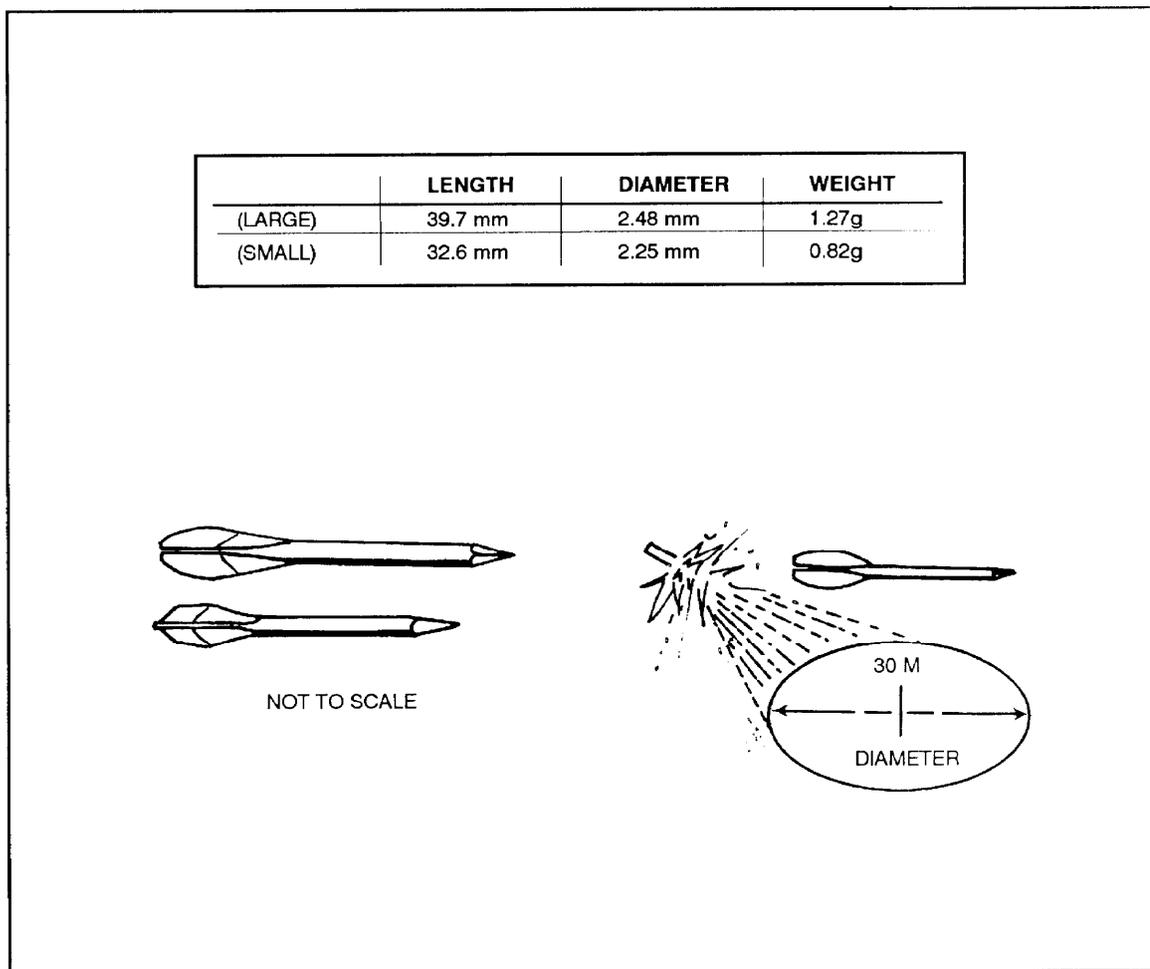

Figure 7-2. Flechette rounds, 152 mm.
(2) Enhanced blast warheads are powerful but have little fragmentation. They are used to suppress and disrupt US tracked mortars, which are protected from fragments by their mortar carriers, and to crush field fortifications.
(3) Subprojectile warheads explode above the ground and scatter thousands of small, finned flechettes. These flechettes are deadly to unprotected personnel. There are two different sizes of flechettes, but each is effective against open mortar positions or carriers (Figure 7-2).